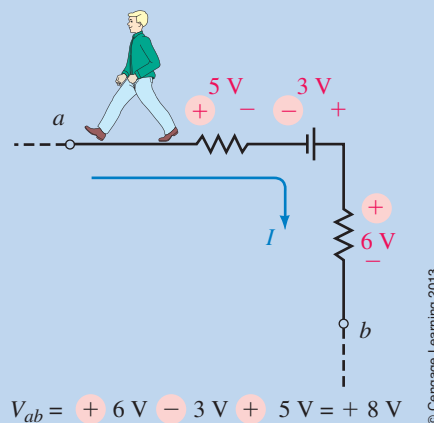

FIGURE 5-31
3. In order to determine the voltage at point *a* with respect to point *b*, start at point *b*. Refer to Figure 5-31. Now, imagine that you walk around the circuit to point *a*.
For Figure 5-31, the voltage V_{ab} is determined as